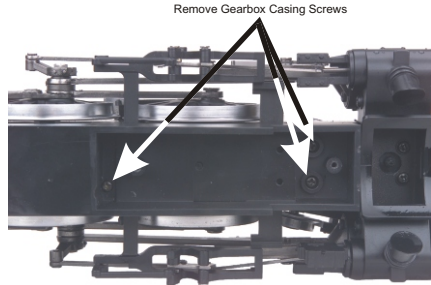

Figure 16: Gear Box Top Access Cover
5. After removing the chassis weight mounting screws, lift the weight out of the chassis and remove the gearbox top access cover mounting screws as seen in Fig. 16.